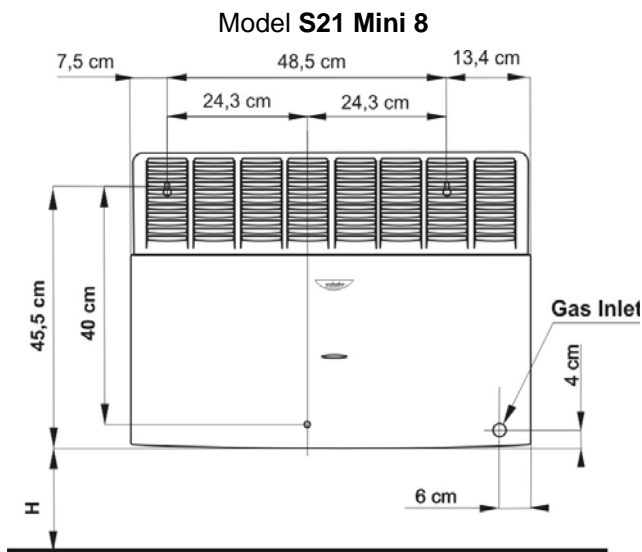

Fig. 1c
- Mark and drill the holes for the fixing anchors. For model Mini 8 a third hole must be done. See figure 1c.